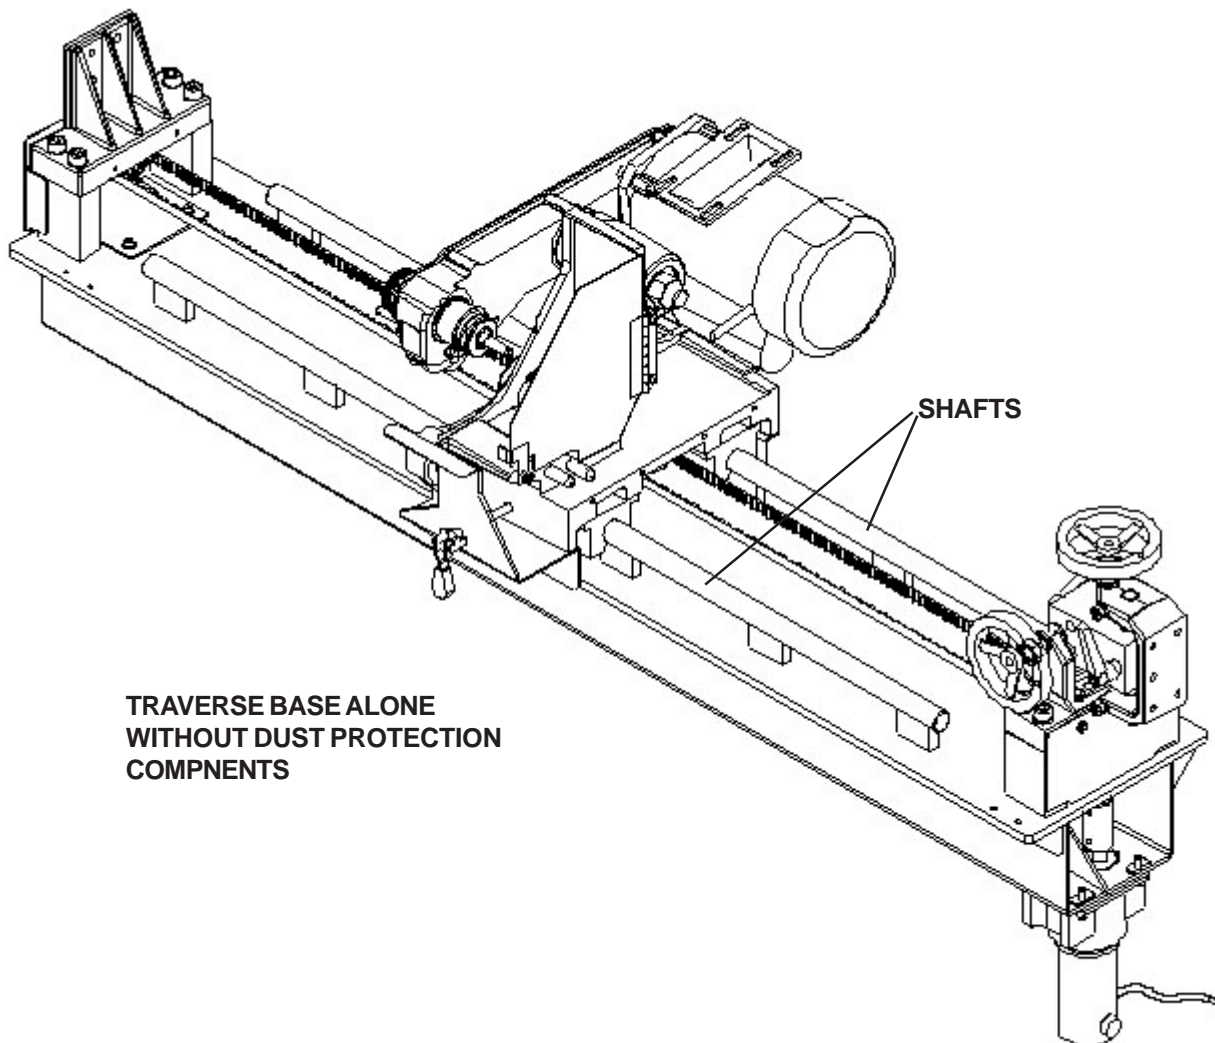

FIG. 10
STEP 2--Flood spray the two shafts with a spray lubricant (**do not use a teflon based lubricant**) until the lubricant is dripping off the shafts. See FIG. 10 Then run the carriage back and forth through its range of travel. This will carry the lubricant into the bearings.